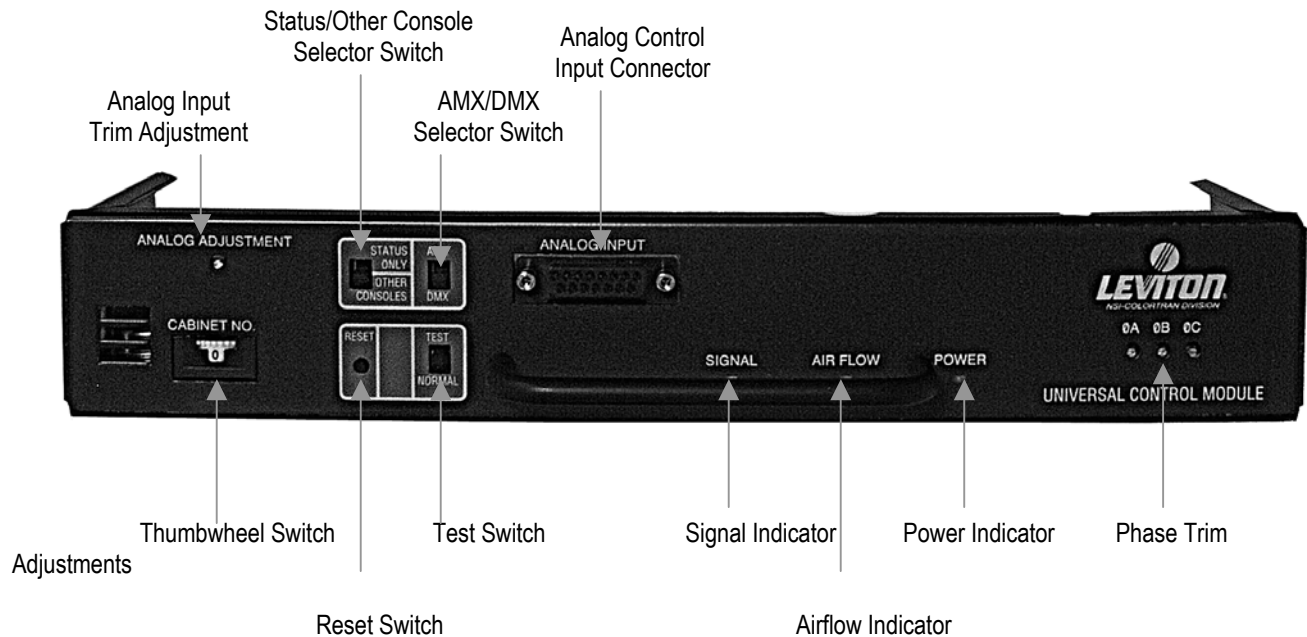

Figure 7 - Universal Control Module Front Panel
### 1. THUMBWHEEL SWITCH (Front Panel, Figure 7)
## 2. RESET SWITCH (Front Panel, Figure 7)
## 3. TEST SWITCH (Front Panel, Figure 7)
## 4. STATUS ONLY / OTHER CONSOLE SWITCH (Front Panel, Figure 7)
## 5. AMX / DMX SWITCH (Front Panel, Figure 7)
## 8. FRONT PANEL LED'S (Front Panel, Figure 7, Page 10)
## 9. ANALOG INPUT CONNECTOR (Front Panel, Figure 7, Page 10)
## 10. ANALOG INPUT TRIM ADJUSTMENT SCREW (Front Panel, Figure 7, Page 10)
11. PHASE TRIM ADJUSTMENT (Front Panel, Figure 7, Page 10)